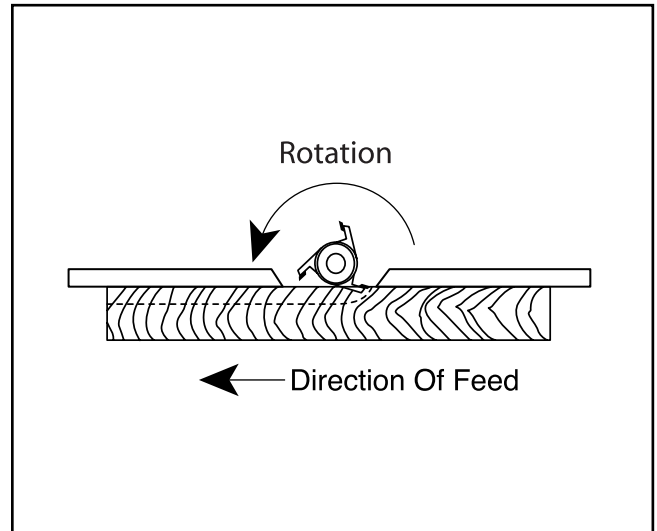

Figure 38. Fence adjustment for blind cuts.
4. Run a test piece through the shaper as shown in **Figure 38.**